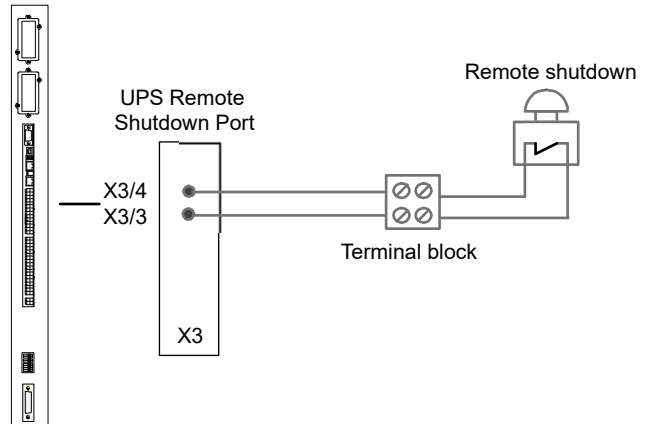

Figure 9.4 Remote emergency stop cabling
The remote shut down facility comprises a normally-closed circuit connected between terminal X3/3 and X3/4 on the customer interface card located on the PowerWAVE 9500DPA front frame (see Figure 9.4).
2. Connect the cable as shown in Figure 9.4.